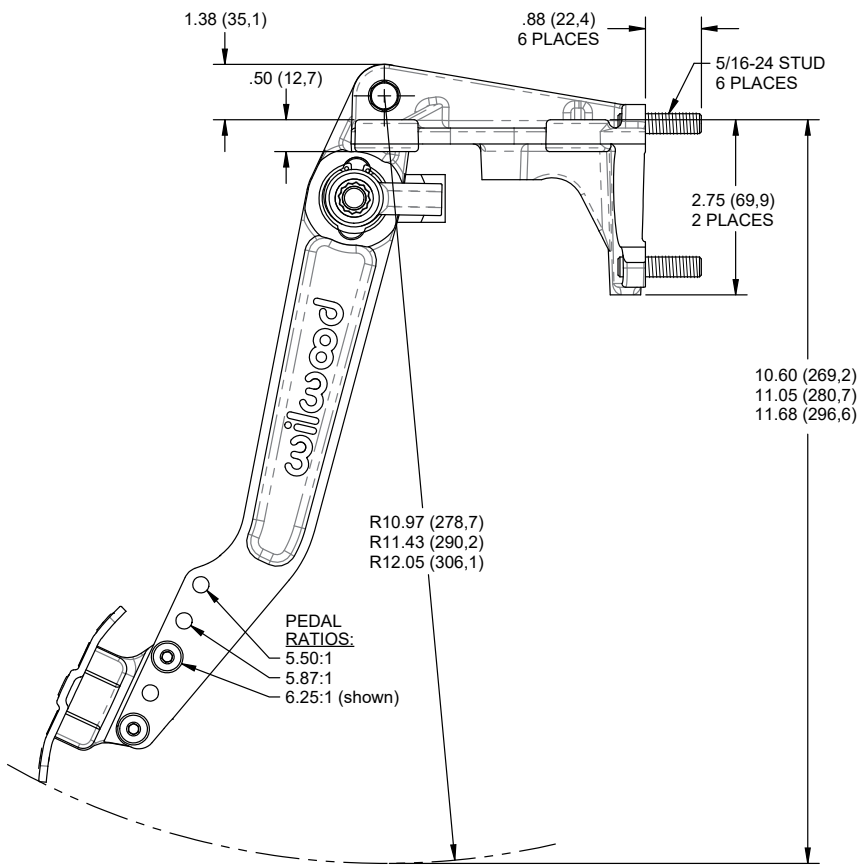

Figure 1a. Forward Swing Mount Dual Pedal Assembly, Physical Dimensions, 5.50:1 to 6.25:1 Ratio (P/N 340-16383)
•Wilwood's forward swing mount dual pedal assembly must be mounted using the four .35" diameter outboard tab mounting holes as shown in Figures 1a & 1b. Attach the pedal assembly to two sturdy beams or plates with four 5/16" bolts. Pedal assembly must be rigidly attached to frame and not deflect under heavy pedal forces. **NOTE:** Pedals must be free from obstructions over their entire range of motion. Allow enough space so Tru-Bar balance bar adjustments can be made and master cylinders are accessible.